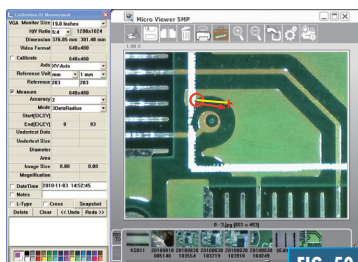

FIG. 50
5. Drag to the second point of the arc and release (Fig. 50).